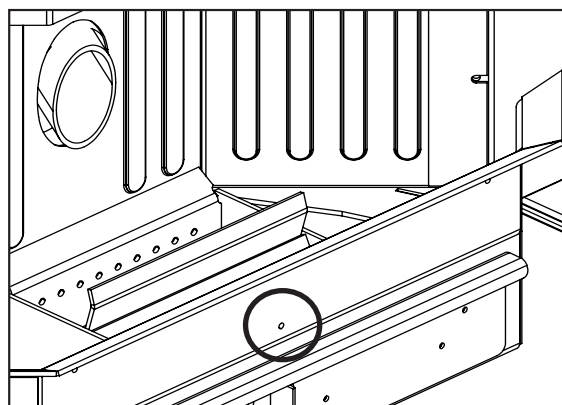

Figure 8: Hole for Pressure test with
Taking a reading of vacuum pressure inside the firebox with a magnehelic gauge can be used to set the slider for best combustion. The slider damper should be set only on a hot stove (operating for thirty (30) minutes or more) by placing a Magnehelic Pressure Gauge in the firebox. The reading can be taken from the $\frac{1}{8}$ " (3 mm) hole located in the front of the firebox under the door (see Figure 8). **The best settings are a reading of approximately 0.13 inches of water column on the high fire setting. Some fuels may require higher or lower settings.**